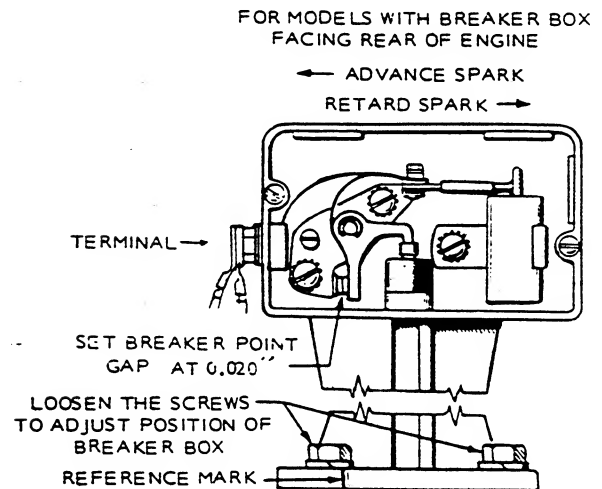

FIGURE 16. IGNITION TIMING
2. Slowly crank engine by hand in clockwise direction (normal crankshaft rotation) until witness mark on flywheel and TC mark on gear cover are exactly in line (Figure 16).
6. Tighten breaker box mounting screws securely after making an adjustment (Figure 16).